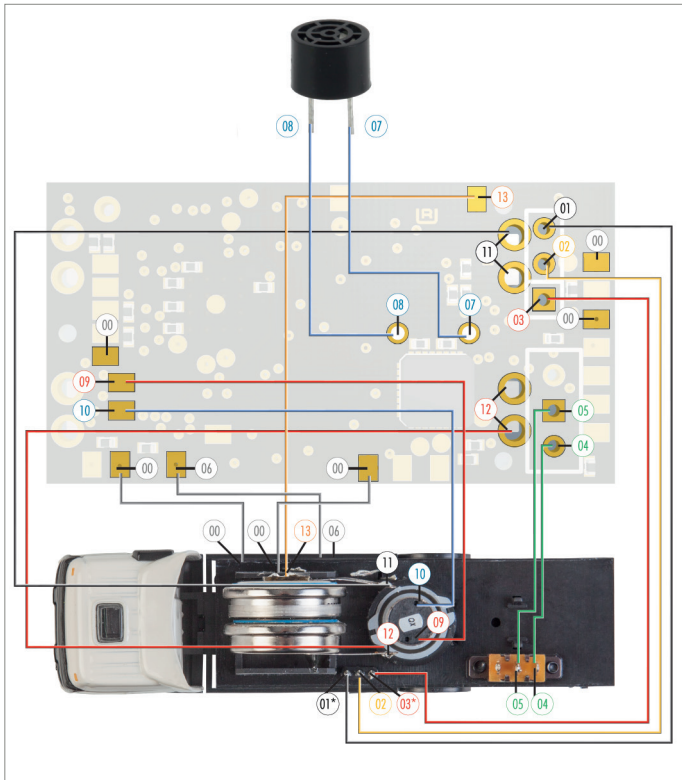

Fig. 41: Connection diagram, type lorry model
***NOTE:** Pay attention to the "+" (plus) pole you have previously defined and marked at the charging socket, and connect it with pad "03" on the conversion PCB. In connection diagram Fig. 41, pads "01" and "03" are on vehicle side merely examples of pad assignment. See also Chapter "Converting the vehicle".